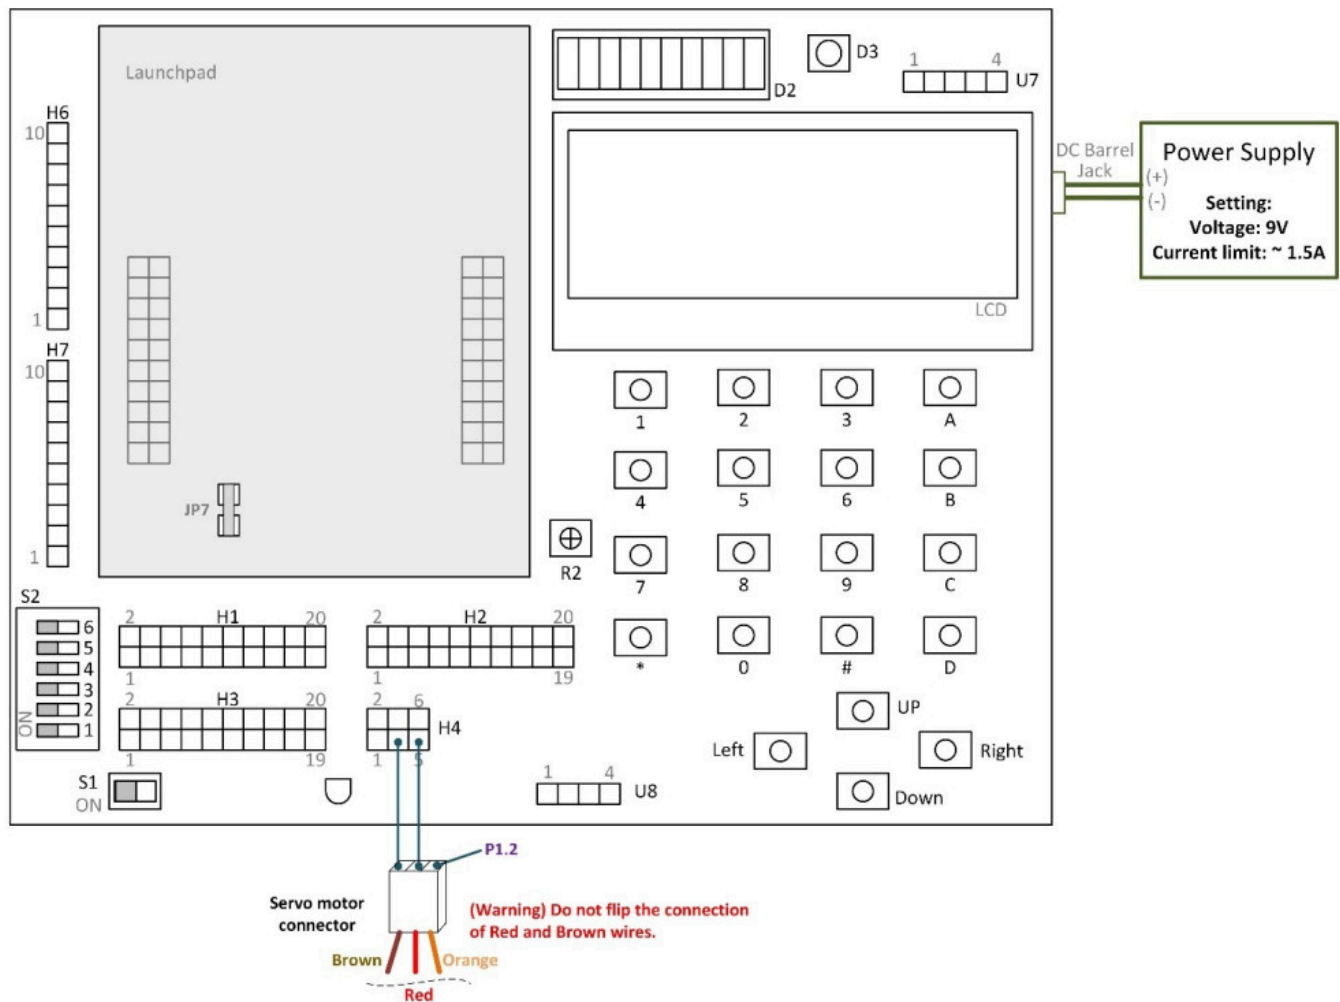

Figure 1. Connection diagram
- Connect jumper wires as shown in Figure 1.